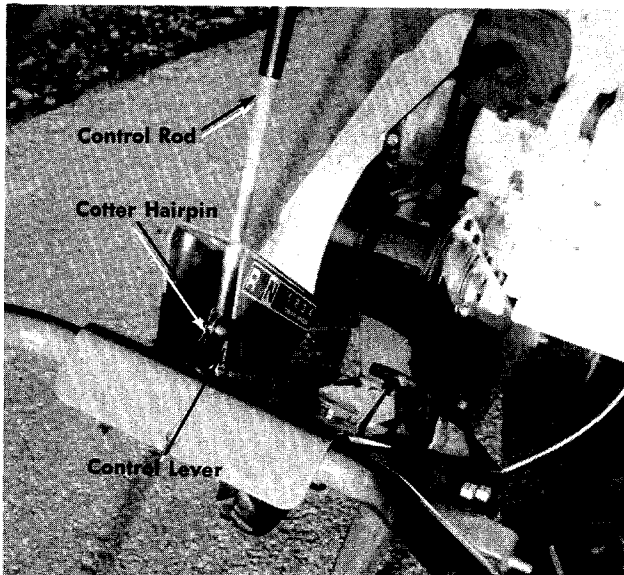

FIGURE 8. THROTTLE CONTROL
Step 1. Place throttle control in handle and assemble to handle with the two throttle screws using a screwdriver. See figure 8.